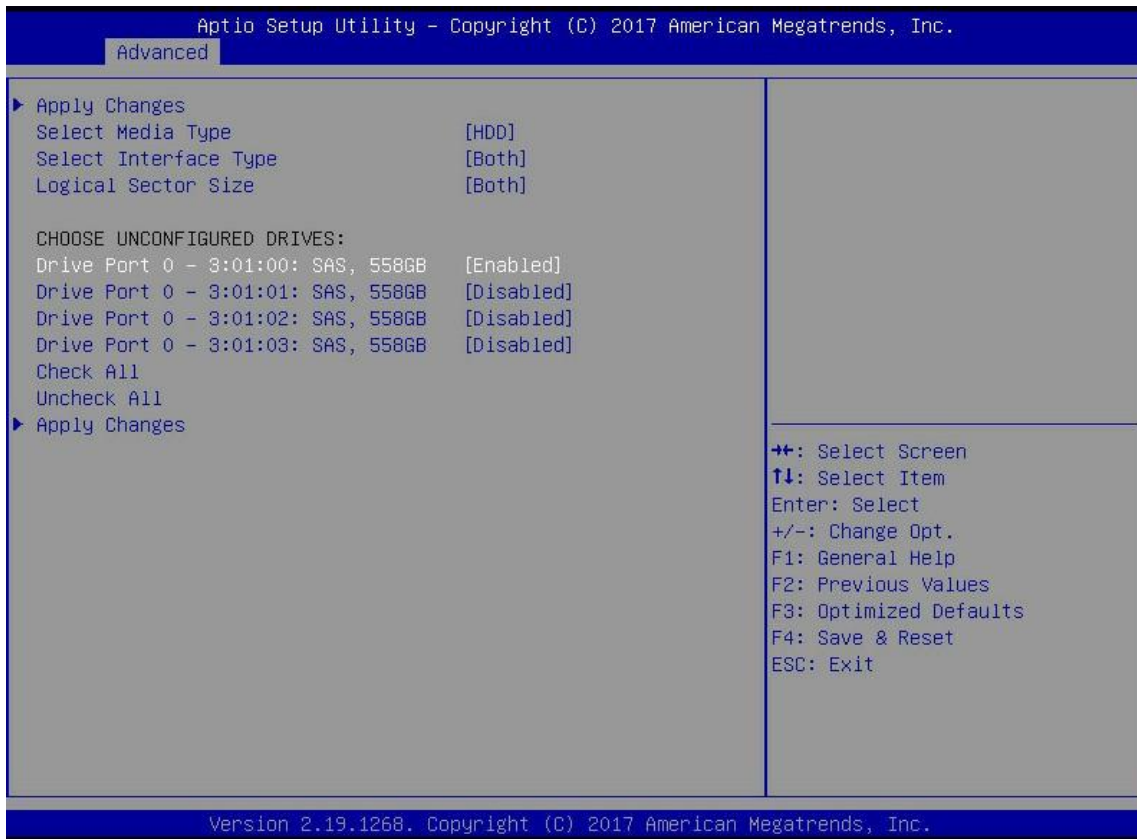

Figure 6-12
f) Enter the interface shown in Figure 6-12, select the disk to be used to configure raid, [enabled] indicates that it is selected, then select apply changes and press enter. If the state of the disk is JBOD or unconfigured bad, it cannot be selected.